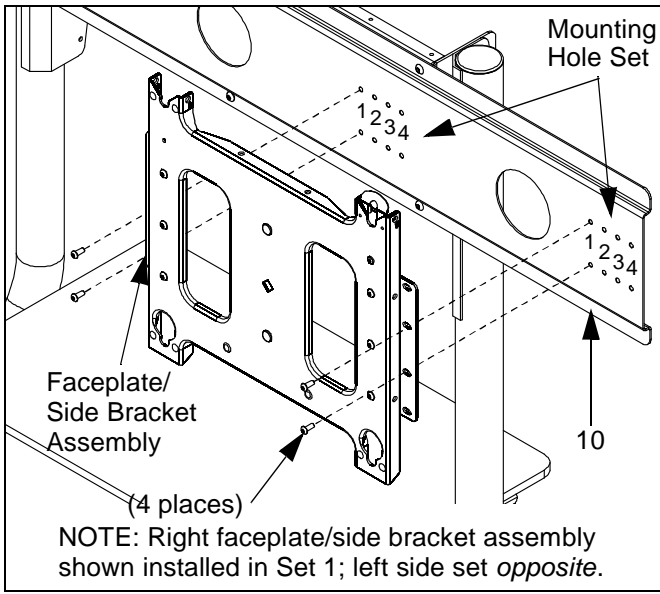

Figure 7: Install Faceplate/Side Bracket Assembly
7. Using hex key (60), install four of the retained 1/4"-20 x 5/8" button head cap screws through retained faceplate/side bracket assembly into appropriate set of mounting holes in bracket (10) (See Figure 7). Tighten securely.